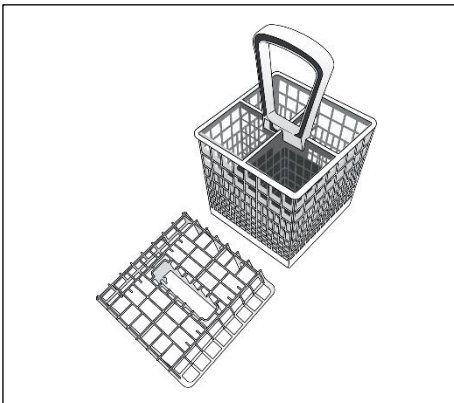

Figure 5
- **AQUAPROTECT - SUPPLY TUBE WITH GUARD (fig. 5):**
- Place the cutlery in the plastic cutlery holder with the handles pointing upwards and place the cutlery holder on the lower basket (fig. 5) making sure that the cutlery does not get in the way of the rotating arms.
The top of cutlery basket can be removed, for enable various loading options.(fig.5).